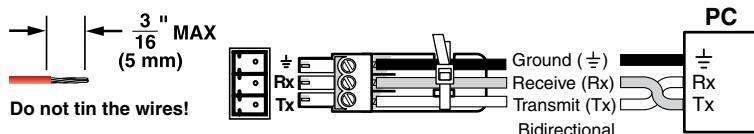

Figure 2-7 — RS-232 connector
⑫ RS-232 connectors — Connect one or two host devices to these 3-pole captive screw connectors for serial RS-232 (figure 2-7).